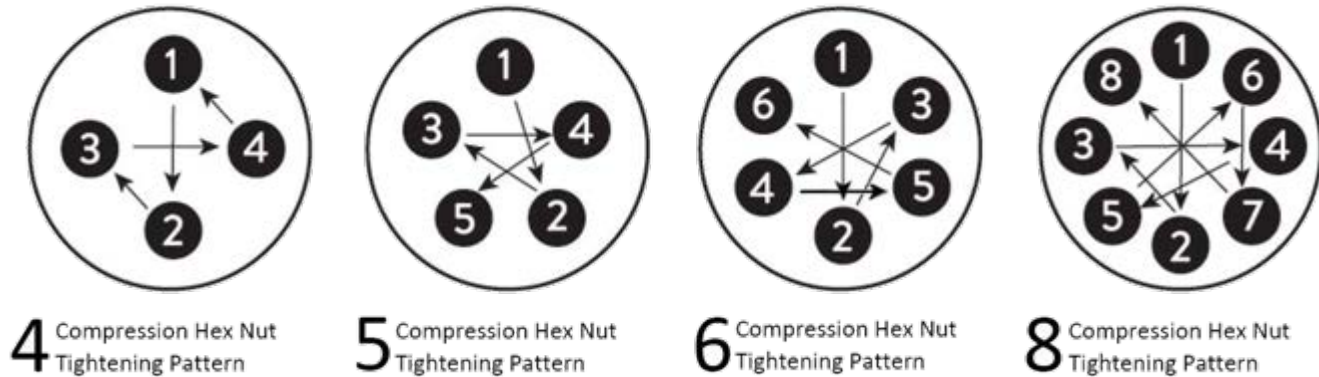

Figure 15: Compression Hex Nut Tightening Pattern Examples
- Using the star pattern shown in Figure 15, tighten each **Compression Hex Nut (19)** by a maximum of three full revolutions before moving to the next nut. Repeat this process until you reach 50% of the target torque on all nuts, then increase to 100% target installation torque, continuing the star pattern. After reaching 100% torque, use a circular pattern to ensure all nuts are properly torqued.
- Initially, only minimal torque will be needed for the first few passes. However, the torque requirement will increase significantly once the **Seal (8)** starts to compress against the pipe's inner diameter.